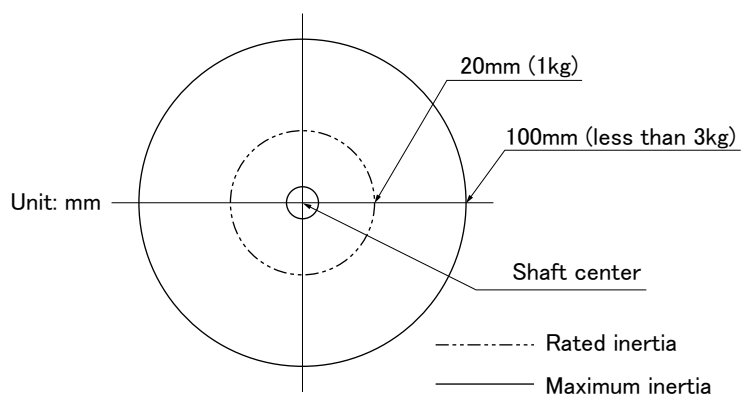

Fig.2-3 : Position of center of gravity for loads (for loads with comparatively small volume): RH-3FRH series
- (2) Fig. 2-3 to Fig. 2-7 shows the distribution dimensions for the center of gravity in the case where the volume of the load is relatively small. Use this figure as a reference when designing the tooling.
Please use the robot in the allowable moment of inertia of maximum moment of inertia shown in Fig. 2-3 to Fig. 2-7.